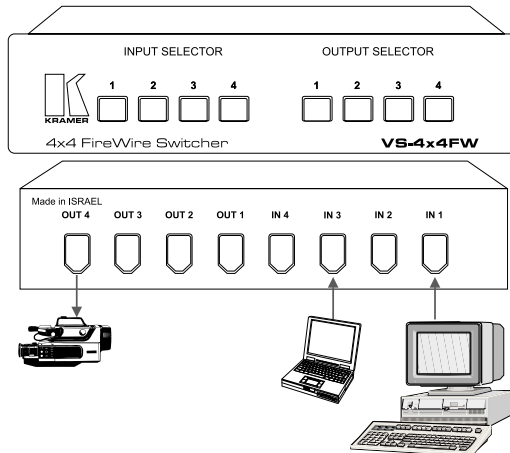

Figure 2: Connecting the VS-4x4FW 4x4 FireWire Switcher
For example, to connect the **VS-4x4FW 4x4 FireWire Switcher** to 2 sources (a PC and a laptop) and to one acceptor (a digital video camera), as Figure 2 illustrates, do the following:
For example, to route the signal from the PC to the Digital Projector, as Figure 2 illustrates, do the following:
For example, to route the signal from the Digital VCR (DV) to the Digital Television, as Figure 2 illustrates, do the following: